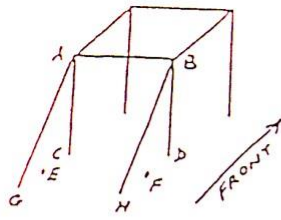

FIG 1
- (a) The general design shall be as in fig 1.
- (d) Roll cages must have two longitudinal braces, one each side, from the roll cage towards the rear of the vehicle, shown as A to G and B to H in fig 1.
- (e) All tubes to be as straight as possible between structural bends as per fig 1.
- (b) If any of the pipe that forms the roll cage structure as in FIG1 – Roll Cage General Design, is bent out of line, because of impact, by more than the OD of the pipe and cannot be straightened, repaired or replaced without showing signs of damage or crimping then that vehicle will be deemed unable to continue in competition until it has been satisfactorily been repaired and passes scrutineering again.